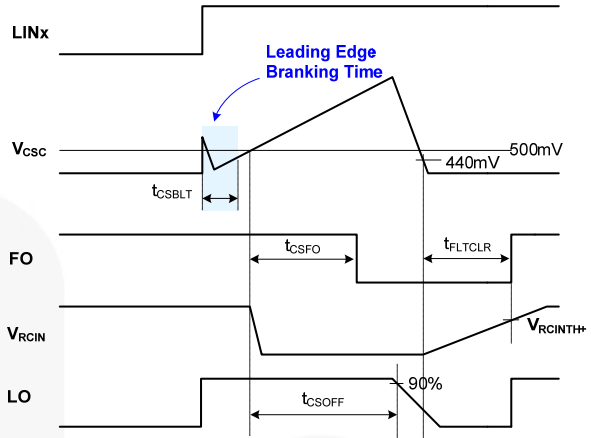

Figure 42. R_{CIN} and Fault-Clear Waveform Definition
Figure 42 shows the waveform definitions of RCIN, \overline{FO} and the low-side driver, which uses a soft turn-off method when an under-voltage condition of the low-side gate driver supply voltage (V_{DD}) or the current-sense pin (CS) recognizes a fault. Once a fault condition occurs, the \overline{FO} pin is internally pulled to COM and all outputs (HO1,2,3 and LO1,2,3) of the gate driver are turned off. Low-side outputs decline linearly by the internal sink current source ($I_{SOFT}=40\ \text{mA}$) for soft turn-off, as shown in Figure 42.